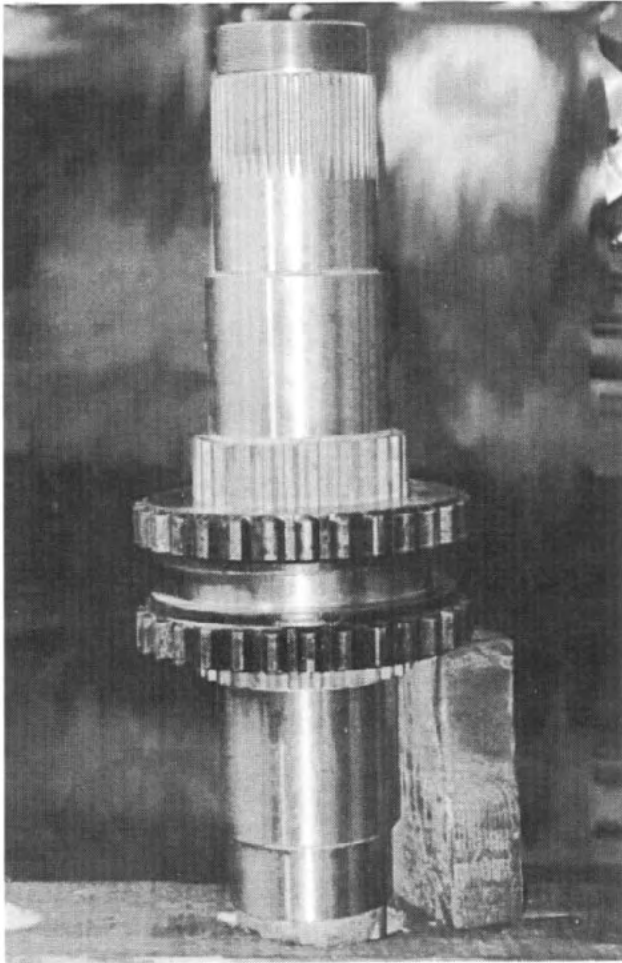

Fig. 45
2. Using a wooden block to hold the shaft in an upright position, install the clutch collar gear onto the shaft. *See Fig. 45.*